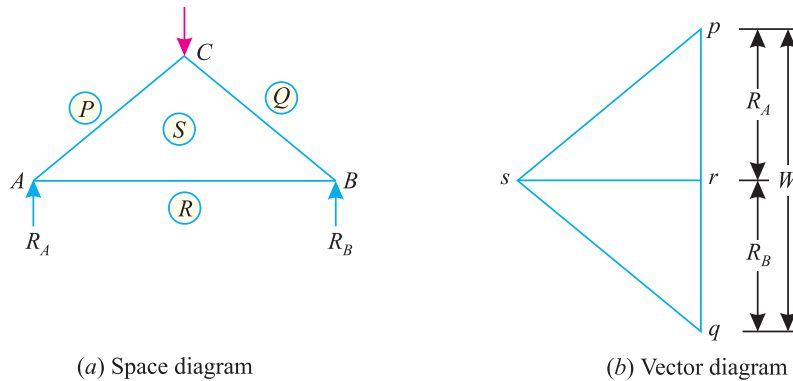

Fig. 14.1.
It means the construction of a diagram of the given frame to a suitable linear scale, along with the loads it carries. The magnitude of support reactions is also found out and shown in the space diagram. Now name the various members and forces according to Bow’s notations as shown in Fig. 14.1 (a).
In the space diagram of the truss ABC shown in Fig. 14.1 (a), the members AB, BC and CA are represented by SR (or RS), SQ (or QS) and PS (or SP) respectively. Similarly, load at C and reactions at A and B are represented by PQ, RP and QR respectively.
4. Now through  $p$  draw a line  $ps$  parallel to  $PS$  and through  $r$  draw  $rs$  parallel to  $RS$ , meeting the first line at  $s$  as shown in Fig. 14.1 (b). Thus  $psrp$  is the vector diagram for the joint (A).
5. Similarly, draw the vector diagram  $qrsq$  for the joint (B) and  $pqs p$  is the vector diagram for the joint (C) as shown in Fig. 14.1 (b).